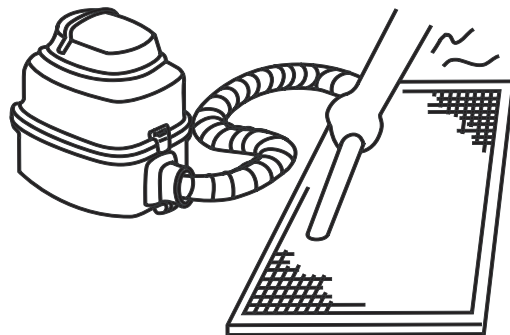

Figure 14.3
- The air-in side should face up when using vacuum cleaner. (See Figure 14.3)